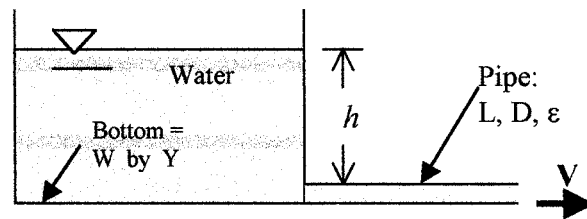

Fig. P6.54
**6.54\*** A swimming pool  $W$  by  $Y$  by  $h$  deep is to be emptied by gravity through the long pipe shown in Fig. P6.54. Assuming an average pipe friction factor  $f_{av}$  and neglecting minor losses, derive a formula for the time to empty the tank from an initial level  $h_o$ .